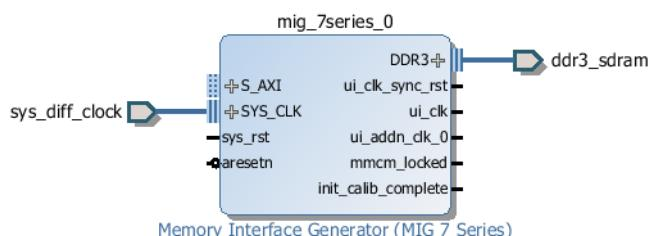

Figure 6-10: Block Automation Creates the DDR3 SDRAM
3. Add the MicroBlaze processor to the design and run Block Automation, as shown in the Figure 6-10.